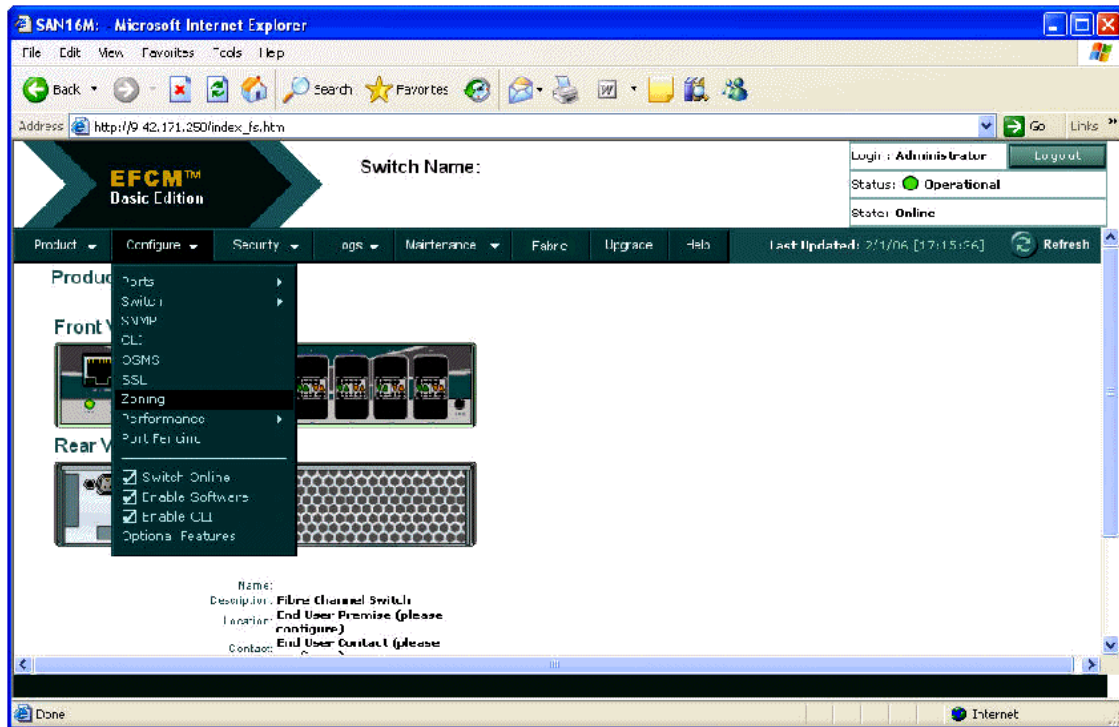

Figure 6-18 Configure window
13. From the action menu, select **Configure** → **Zoning** (Figure 6-18).